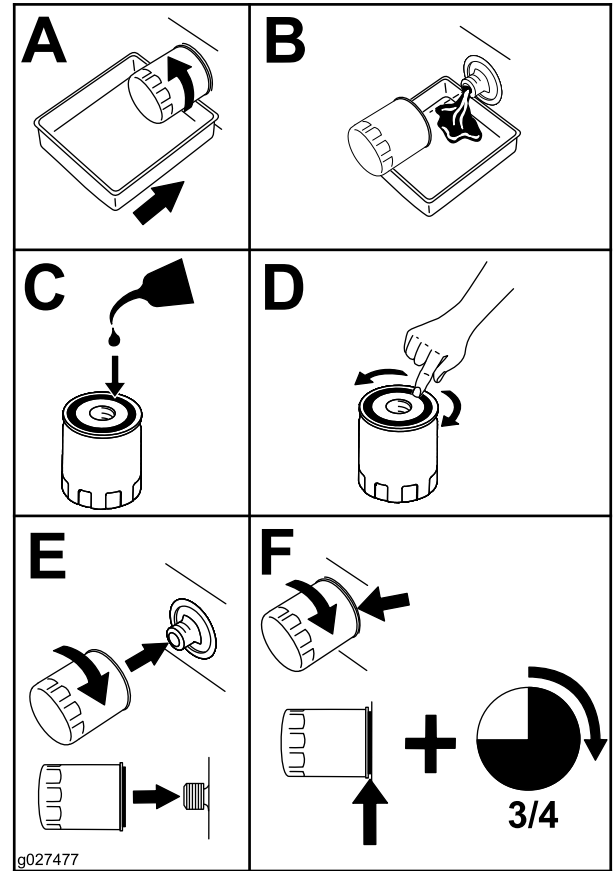

Figure 33
5. Change the engine-oil filter (Figure 33).